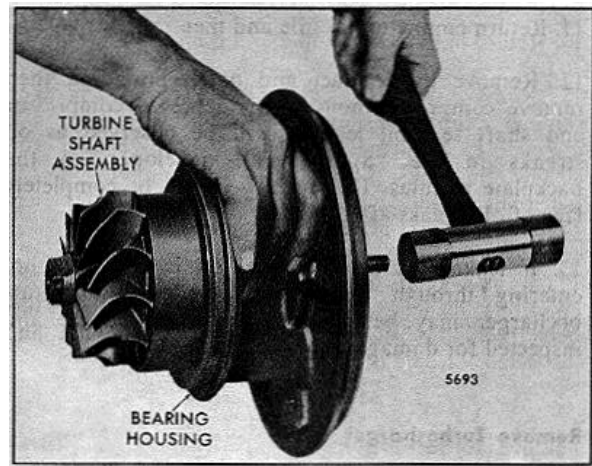

FIG. 6 Tapping Turbine Shaft Assembly from Bearing Housing
6. Tap the turbine shaft assembly gently with a plastic faced mallet to release it from the bearing housing (Fig. 6).